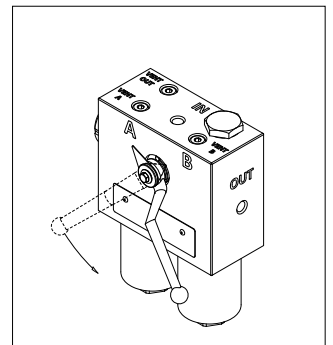

fig. 4
- (Fig. 4) Turn the switching lever through 90 degrees to start the NEW SIDE and release the WASTE SIDE